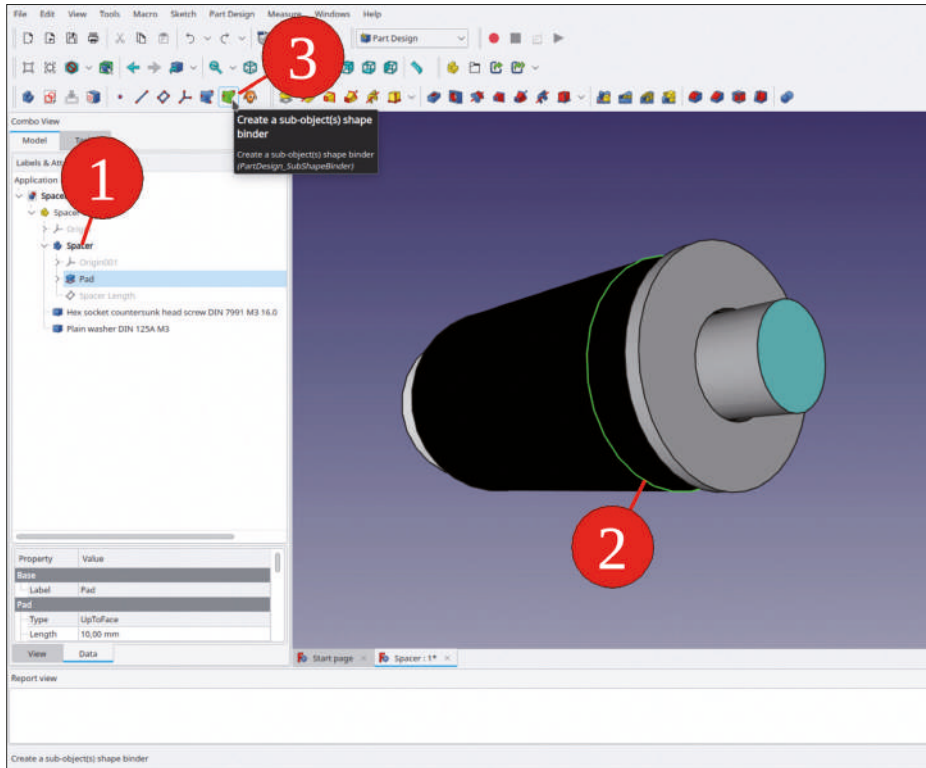

Figure 4-22
15. Next, the SubShapeBinder can be created. From the last step, the body 'Spacer' should be still activated (its title been shown in bold in the tree view). In the 3D view, mark the boundary of the spacer as shown in Figure 4-22 and click the green 'Create SubShapeBinder' tool button in the workbench menu. (If you would want to fix the SubShapeBinder even more rigorously, you could sketch a circle onto the new datum plane, which coincides with the spacer, and use that as input for the SubShapeBinder).